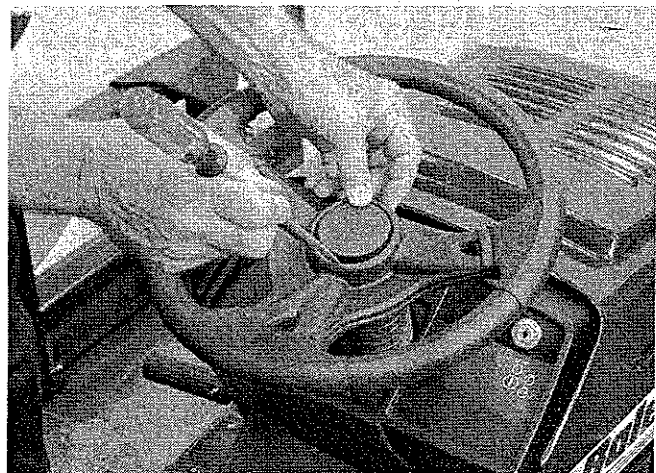

FIGURE 2
6. Using a flat blade screwdriver, pry the steering wheel cap from the center of the steering wheel. See Figure 2.